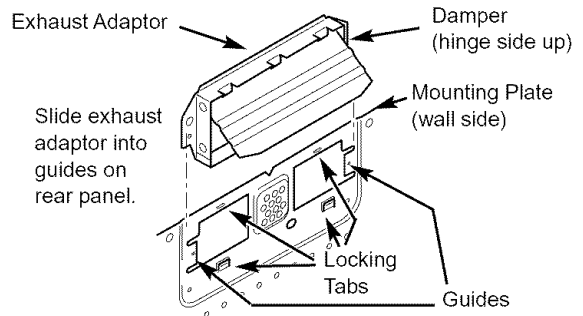

Figure 29
- Carefully guide the exhaust adaptor, now attached to the mounting plate, into the house duct, before using the screws to attach the plate to the wall. This will assure proper alignment for installation. See **Figure 29**.
- Return to step 5, item 3 (page 15) to continue. After completing the installation of the mounting plate, again check the rear damper for free movement to assure it will operate properly.